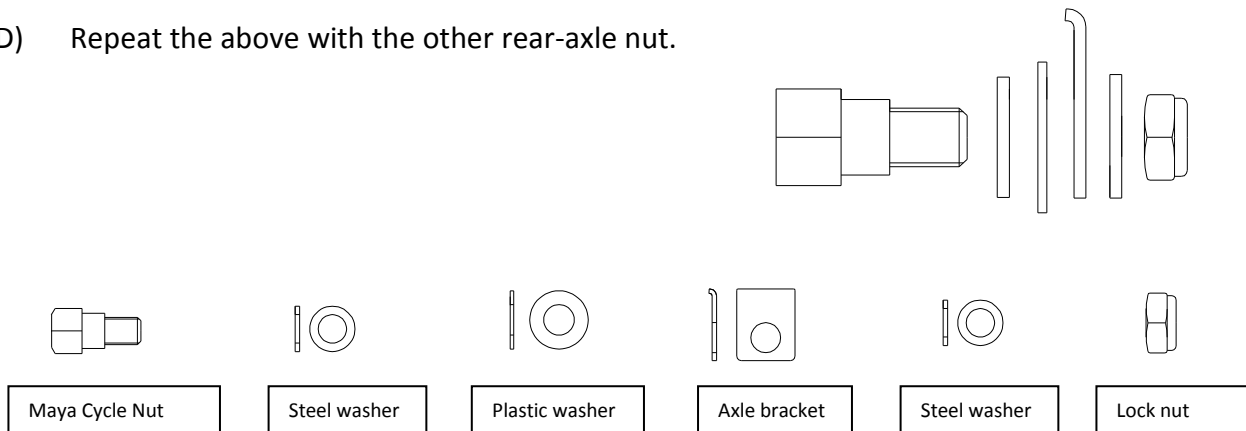

Figure. 2 Maya Cycle adaptor nuts and components
- B) Replace it with the Maya Cycle adaptor nut. The sequence of parts assembled is shown in Figure 2.